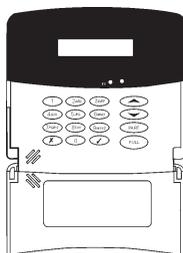

Figure B- 54: LCD Programming Keypad
7. All registration and test functions, described in the following sections, are performed from the LCD programming keypad model no. 5200250 shown in Figure B- 54. Connect the programming keypad to the Programming Keypad connector.